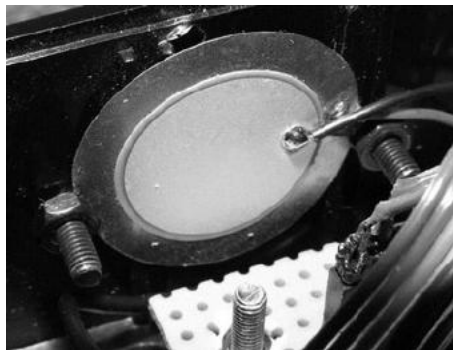

Figure 4-14. *Detail showing the piezo mount*
- The piezo electric speaker is held onto the side of the control box by two small bolts (see Figure 4-14). This results in a maximum loudness from it. You could drill a cluster of small holes in the box side to let more sound out, as I did, but I didn't find that made much difference in the end.